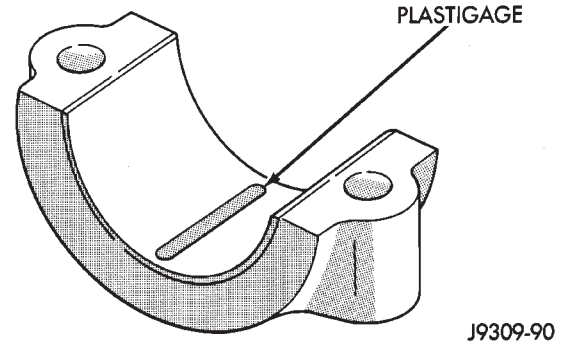
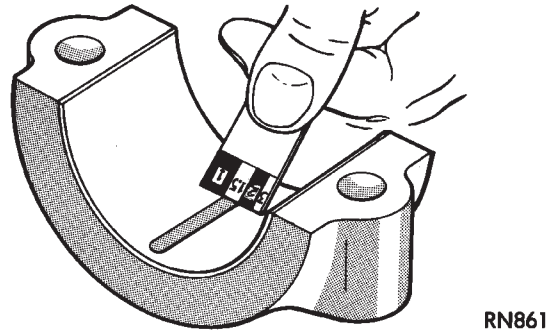

Fig. 1 Placement of Plastigage in Bearing Shell
Fig. 2 Clearance Measurement
(1) Place a piece of Plastigage across the entire width of the bearing cap shell (Fig. 1). Position the Plastigage approximately 6.35 mm (1/4 inch) off center and away from the oil holes. In addition, suspect areas can be checked by placing the Plastigage in that area. Tighten the bearing cap bolts of the bearing being checked to 108 N·m (80 ft. lbs.) torque (2.5L Engine). Tighten the bearing cap bolts of the bearing being checked to 115 N·m (85 ft. lbs.) torque (3.9L and 5.2L Engines). **DO NOT rotate the crankshaft or the Plastigage may be smeared, giving inaccurate results.**
(2) Remove the bearing cap and compare the width of the flattened Plastigage with the scale provided on the package (Fig. 2). Plastigage generally comes in 2 scales (one scale is in inches and the other is a metric scale). Locate the band closest to the same width. This band shows the amount of clearance. Differences in readings between the ends indicate the amount of taper present. Record all readings taken (refer to Engine Specifications).
(3) Plastigage is available in a variety of clearance ranges. The 0.025-0.076 mm (0.001-0.003 inch) range is usually the most appropriate for checking engine bearing clearances.
(1) Remove oil film from surface to be checked. Plastigage is soluble in oil.
(2) Place a piece of Plastigage across the entire width of the bearing cap shell (Fig. 1). Position the Plastigage approximately 6.35 mm (1/4 inch) off center and away from the oil holes. In addition, suspect areas can be checked by placing the Plastigage in the suspect area.
(3) The crankshaft must be turned until the connecting rod to be checked starts moving toward the top of the engine. Only then should the rod cap with Plastigage in place be assembled. Tighten the 2.5L rod cap nut to 45 N·m (33 ft. lbs.) torque. Tighten the 3.9 and 5.2L rod cap nut to 61 N·m (45 ft. lbs.) torque. **DO NOT rotate the crankshaft or the Plastigage may be smeared, giving inaccurate results.**
(4) Remove the bearing cap and compare the width of the flattened Plastigage with the scale provided on the package (Fig. 2). Plastigage generally comes in 2 scales (one scale is in inches and the other is a metric scale). Locate the band closest to the same width. This band shows the amount of clearance. Differences in readings between the ends indicate the